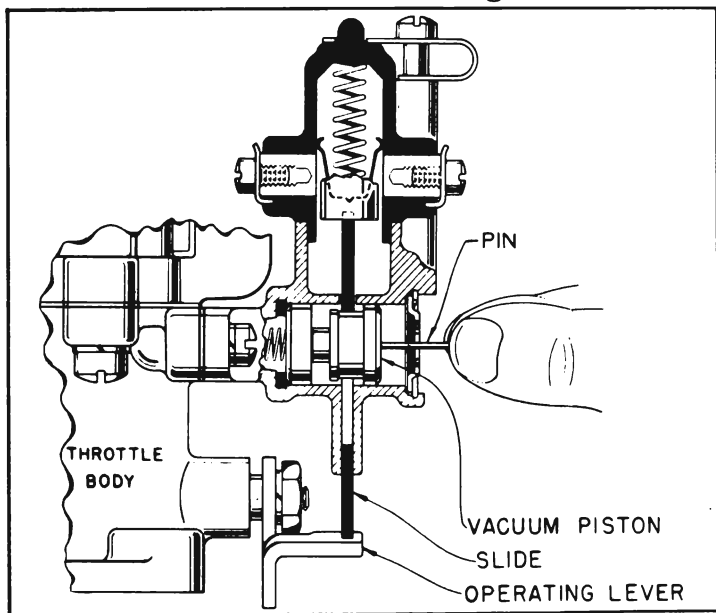

Figure 10-33—Pushing Vacuum Piston to Inner Position
2. With engine not running, insert a pin through center of felt filter and screen to operate the vacuum piston. **DO NOT REMOVE FILTER AND SCREEN.** See figure 10-33.
3. With throttle closed, first push vacuum piston to its inner position and hold it there while opening throttle. This will allow slide to drop into the shallow groove in the piston and will lock it in the inner position and prevent slide from dropping far enough to complete contact. See figure 10-33. Hold throttle open to prevent release of piston until completion of Steps 4 and 5. Remove pin.